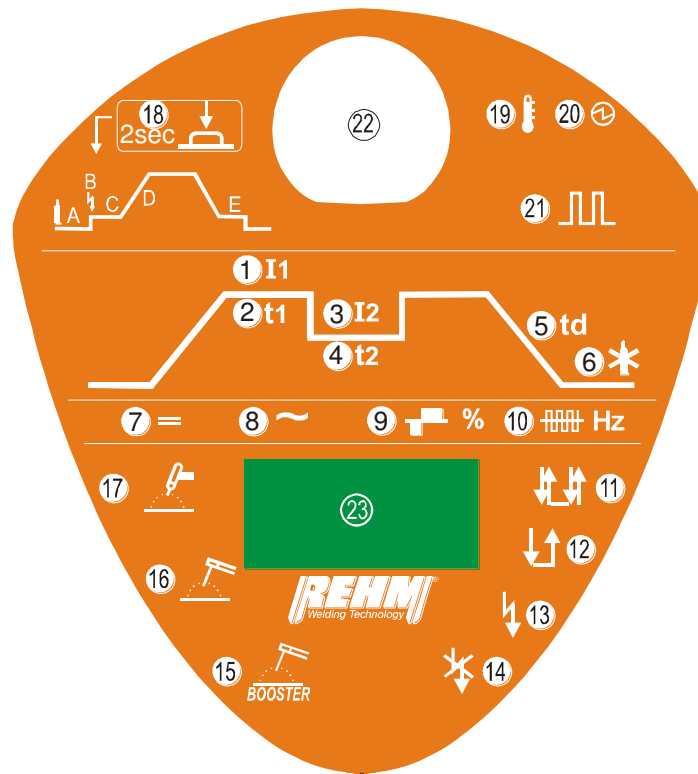
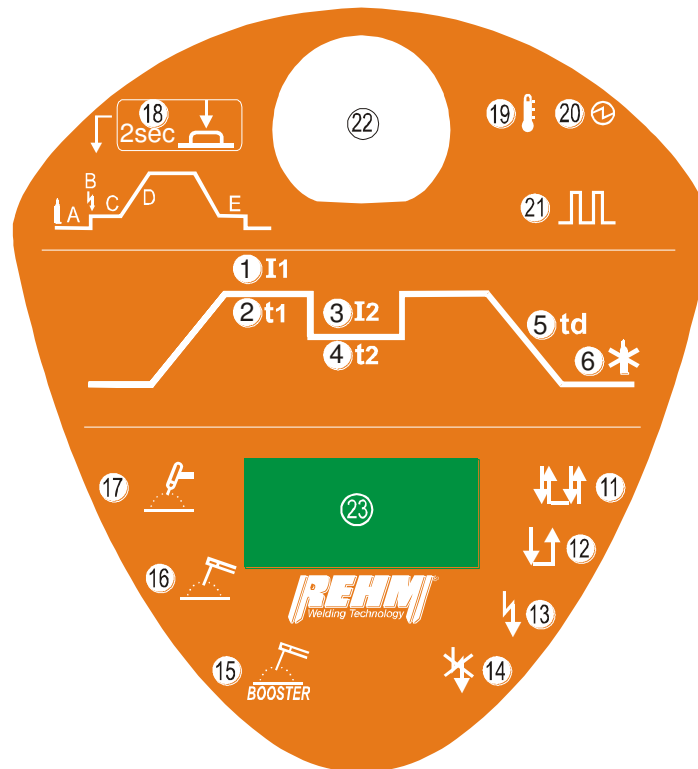

Fig 3.1: The REHM-Operators panel for TIGER 170 AC/DC and Tiger 210 AC/DC
Fig 3.2: The REHM-Operators panel for TIGER 170 DC and Tiger 210 DC
The operation of the TIG welding units is achieved via panel as shown in Fig 3.1 (for Tiger 170 / 210 DC) or Fig 3.2 (for Tiger 170 / 210 AC/DC).
The operating panel is split into several elements, the welding parameter settings in the welding cycle diagram (1)-(6). The section below this is the AC operating section (7)-(10). On the right hand side are the TIG functions (11)-(14). In the middle is the digital display (23). On the left hand side is the welding process selection (15)-(17). To the left of the control knob is the "special mode" (18). The sequence in which the LED's are selected is according to the numbering shown in Fig 3.1 and 3.2.
The functions are described in sequence as per Fig. 3.1. and Fig. 3.2.